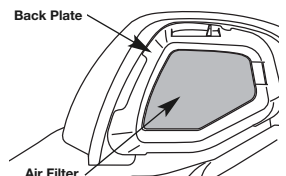

Fig. 32
2. Remove the air filter (Fig. 32).
6. Replace the air filter into the base plate (Fig. 32).